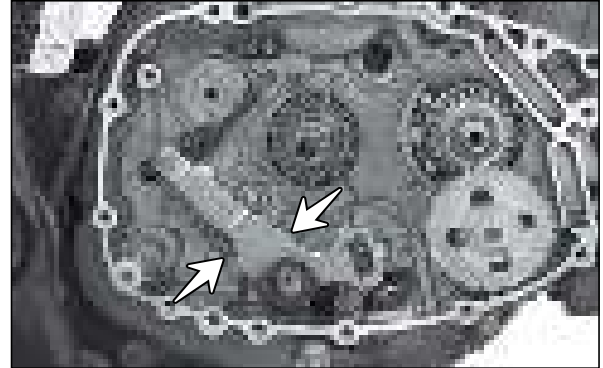

Fig. 3.120
- Carefully pull out the shaft complete gear shift. (Fig. 3.120)